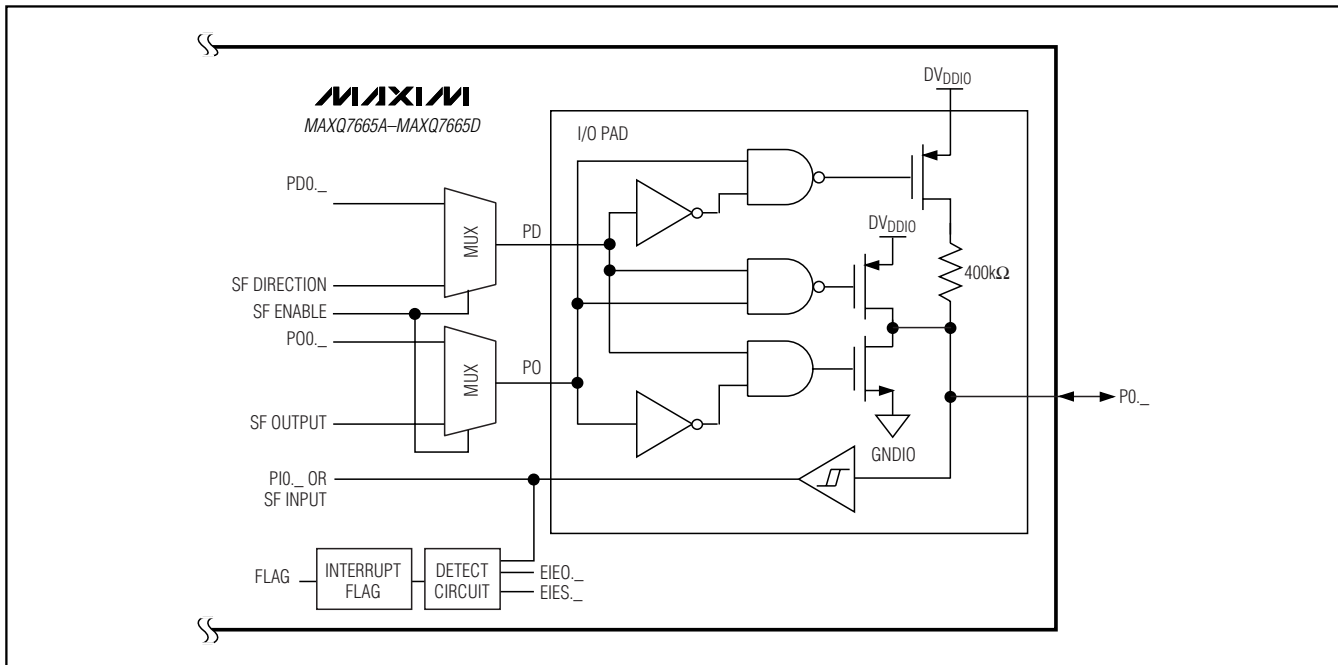

Figure 13. Digital I/O Circuitry
- All I/Os contain an additional special function, such as a logic input/output for a timer channel. Selecting an I/O for a special function alters the port characteristics of that I/O (refer to the *MAXQ7665/MAXQ7666 User's Guide* for more details). Figure 13 illustrates the functional blocks of an I/O.